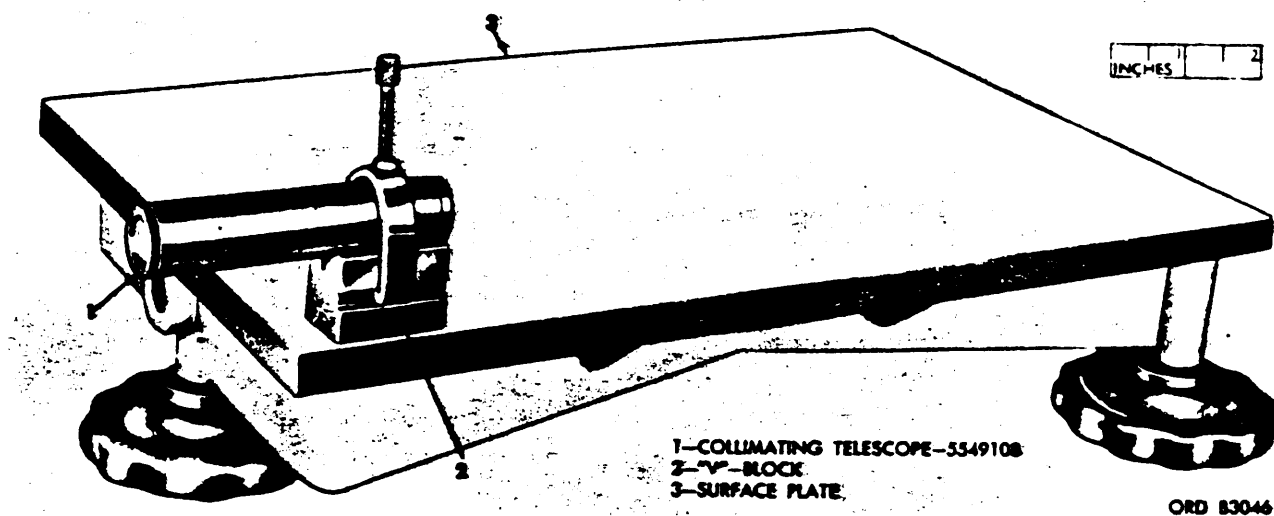

Figure 13. Plumbing reticle of collimating telescope.
c. Clamp a collimating telescope 5549108 in a precision "V" block on a leveled surface plate (fig. 13). Loosen clamp and rotate collimating telescope in "V" block until one of the reticle lines coincides with a true vertical line as established by a plumb line. Secure telescope